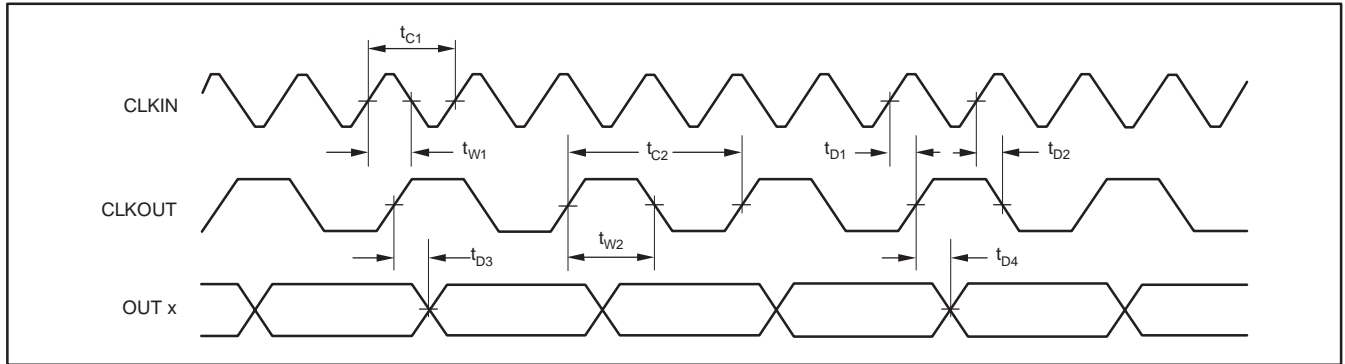

Figure 1. ADS1205 Timing Diagram
(1) All input signals are specified with t_R = t_F = 5ns (10% to 90% of BV_{DD}) and timed from a voltage level of (V_{IL} + V_{IH})/2. See Figure 1.
(2) With reduced accuracy, the minimum clock period can go down to 30ns.